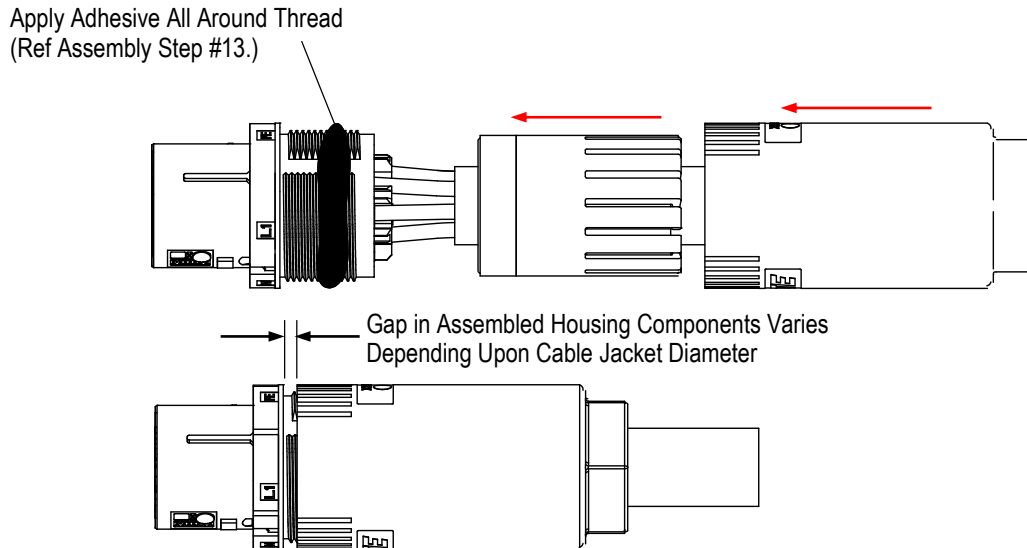

Figure 20
13. The connector assembly may be made “non-reworkable” by applying quick-setting adhesive to threads of connector housing before assembly of “ring nut” component, as shown in Figure 20. Recommended adhesives are:
13. To prevent connector dis-assembly, apply quick-setting adhesive to threads of connector housing before assembly of “ring nut” component, as shown in Figure 20. Recommended adhesives are: